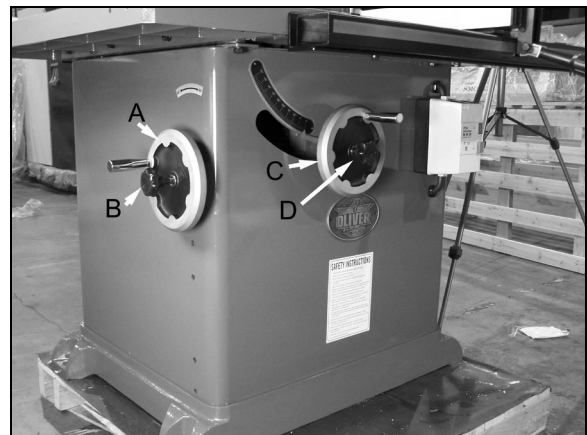

Figure 25
2. **Handwheel Lock:** There is a handwheel lock on both handwheels (B & D of Figure 25). Loosen lock to turn handwheel and tighten when blade is in desired location.